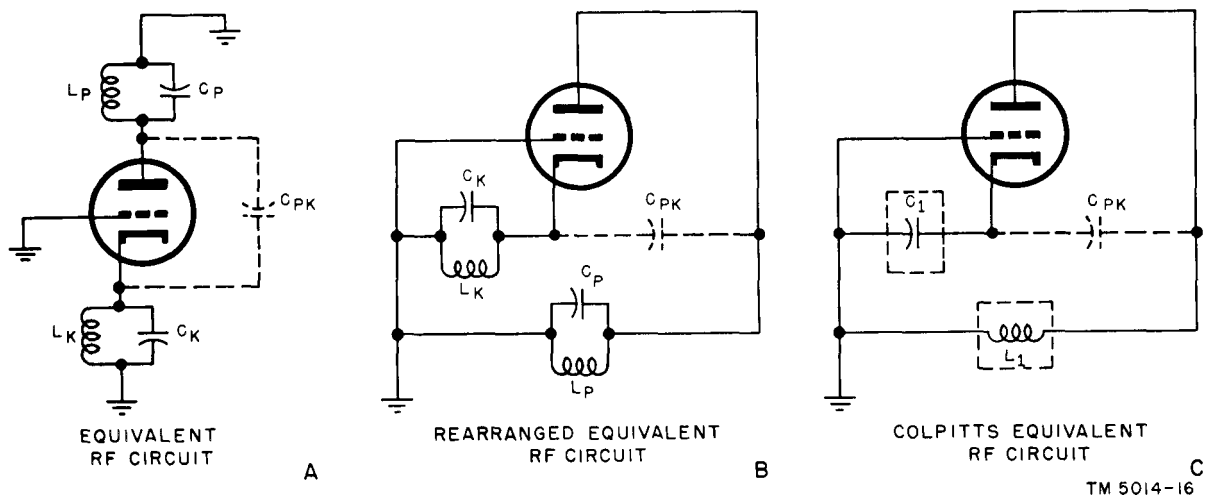

Figure 8. Test Set TS-538(\*)/U, rf oscillator V4, equivalent circuits.
- (3) The rf oscillator circuit may be considered equivalent to that of a conventional Colpitts oscillator. The equivalent rf circuit, including the plate and cathode resonant circuits and the capacitance between plate and cathode  $C_{pk}$ , is shown in A, figure 8. The plate-to-grid capacitance is included in  $C_p$  (capacitance in the cathode tuned circuit) and the grid-to-cathode capacitance is included in  $C_k$  (capacitance in the cathode tuned circuit). Parts B and A of figure 8 are identical, except that the circuit elements have been rearranged. Parallel arrangement of  $C_k$  and  $L_k$  presents a capacitive reactance to the frequency of oscillation. This capacitive reactance forms a voltage divider with  $C_{pk}$  that supplies a grid-to-cathode voltage out of phase with the plate voltage; this satisfies a necessary condition for oscillation. When the cathode circuit is tuned to a frequency *below* the frequency of oscillation, it can be replaced by an equivalent capacitance  $C_1$  (C, fig. 8). If the reactance of the cathode circuit were inductive, the phase of the grid-to-cathode voltage would be reversed and oscillations could not be sustained. Since at least one inductive reactance is required to form a tank circuit, the plate circuit must present an inductive reactance to the frequency of oscillation. This occurs when the plate circuit is tuned to a frequency above the frequency of oscillation. The plate circuit may then be replaced by an equivalent
inductance  $L_1$  (C, fig. 8). The resulting equivalent circuit (C, fig. 8) is similar to that of a Colpitts oscillator.
- (4) Capacitor  $C_1$  (C, fig. 8) must be large in comparison to  $C_{pk}$  because only a small portion of the plate rf voltage must be applied between grid and cathode to maintain oscillations. In effect, the total capacitance in the tank circuit is determined by  $C_{pk}$  ( $C_{pk}$  and  $C_1$  are connected in series) and is comparatively independent of the value of  $C_1$ . For this reason, the tuning of the cathode cavity has relatively little effect upon the oscillator frequency. The cathode cavity is adjusted for maximum output from the oscillator tube. Tuning the plate cavity varies  $L_1$  and has considerable effect on the oscillator frequency. The plate cavity is tuned by the OSCILLATOR FREQUENCY control which gives an oscillator frequency range of 1,630 to 1,730 mc (1,615 to 1,715 mc in the TS-538C/U).